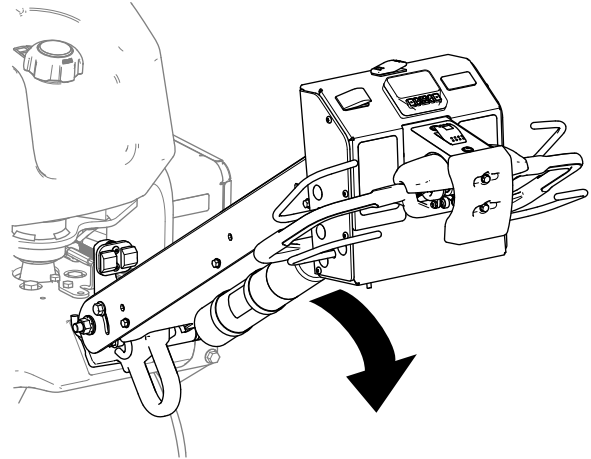

Figure 31
2. Lower the handlebar (Figure 31).